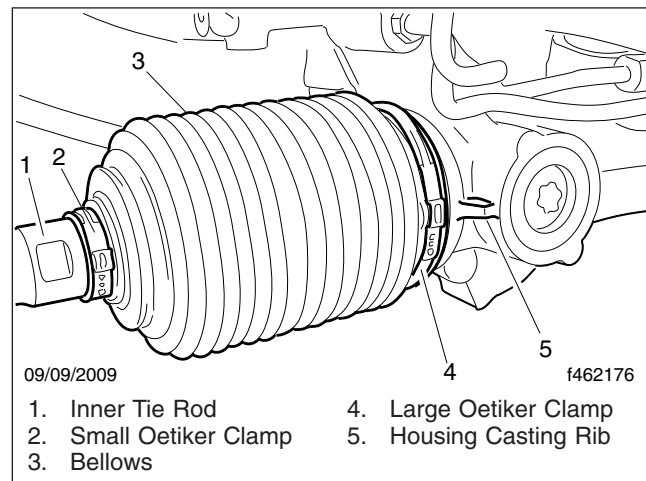

Fig. 7, Oetiker Clamp Alignment
- 14.2 Ensure the large Oetiker clamp is properly seated in the clamp groove on the bellows. Align the large Oetiker clamp ear with the small clamp ear. Both clamp ears should be aligned with the rack housing casting rib. See Fig. 7.